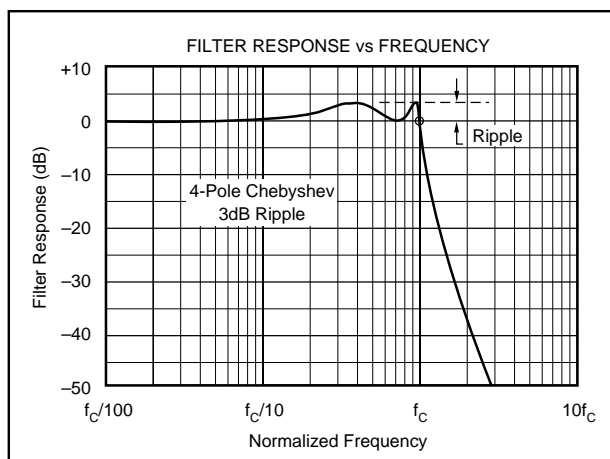
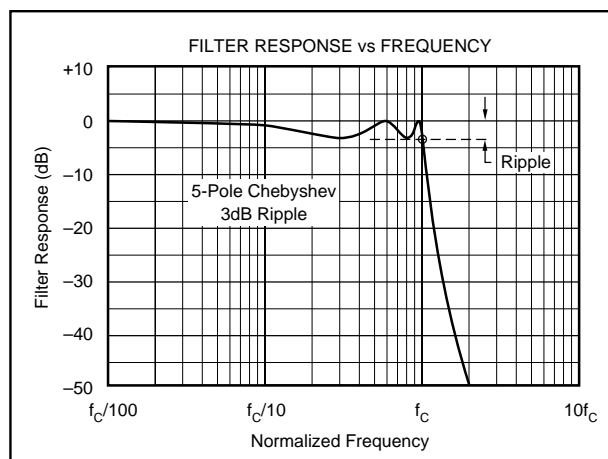

FIGURE 1A. Response vs Frequency of Even-Order (4-pole),  $3\text{dB}$  Ripple Chebyshev Filter Showing Cutoff at  $0\text{dB}$ .
FIGURE 1B. Response vs Frequency of Odd-Order (5-pole),  $3\text{dB}$  Ripple Chebyshev Filter Showing Cutoff at  $-3\text{dB}$ .
**Chebyshev** (equal ripple magnitude). (Also transliterated Tscheychev, Tscheybscheff or Tchevysheff.) This filter type has steeper attenuation above the cutoff frequency than Butterworth. This advantage comes at the penalty of amplitude variation (ripple) in the pass-band. Unlike Butterworth and Bessel responses, which have  $3\text{dB}$  attenuation at the cutoff frequency, Chebyshev cutoff frequency is defined as the frequency at which the response falls below the ripple band. For even-order filters, all ripple is above the  $0\text{dB-gain}$  DC response, so cutoff is at  $0\text{dB}$ —see Figure 1A. For odd-order filters, all ripple is below the  $0\text{dB-gain}$  DC response, so cutoff is at  $-(\text{ripple})\text{ dB}$ —see Figure 1B. For a given number of poles, a steeper cutoff can be achieved by allowing more pass-band ripple. The Chebyshev has even more ringing in its pulse response than the Butterworth.